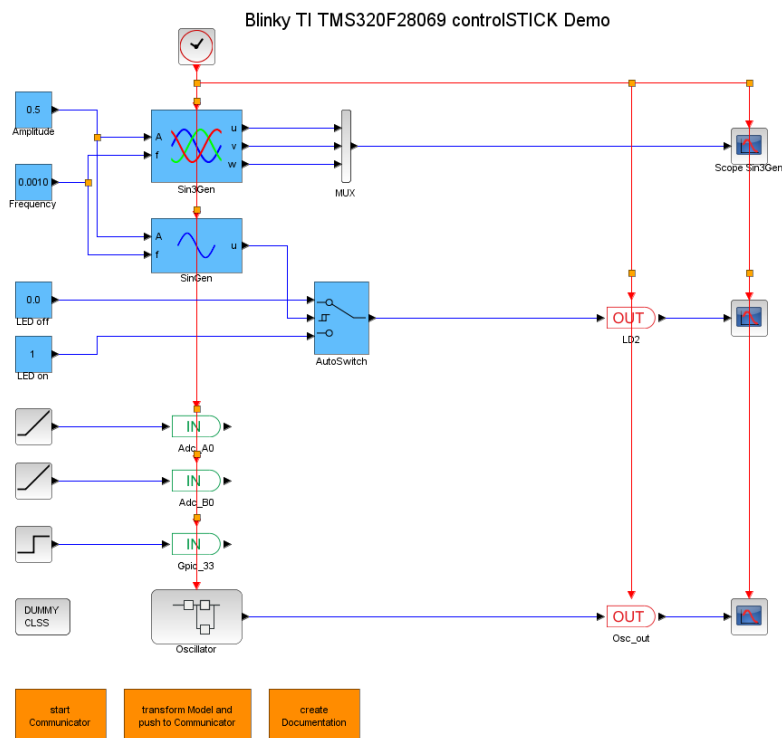

Figure 25: *Blinky* demo application in *Scilab/Xcos*
2. Double click on **DemoApplication.zcos**. The example project contains a few blocks used to demonstrate the basic function of X2C (see Figure 25). The *Inport* and *Outport* blocks define the interface between the generated X2C code and the peripheral functions (e.g. ADC or GPIO Pins) on the target. For details about each block function read *X2Copen.Doc.pdf* in the documentation folder of the X2C directory.